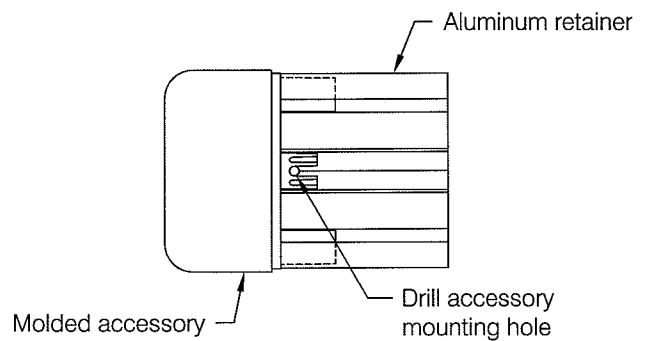

fig 4
**Step 6:** Insert molded accessories into end of retainer, press firmly to ensure molded part is seated squarely against the end of the retainer. Drill accessory mounting holes using the accessory as the template, see **fig 4**.